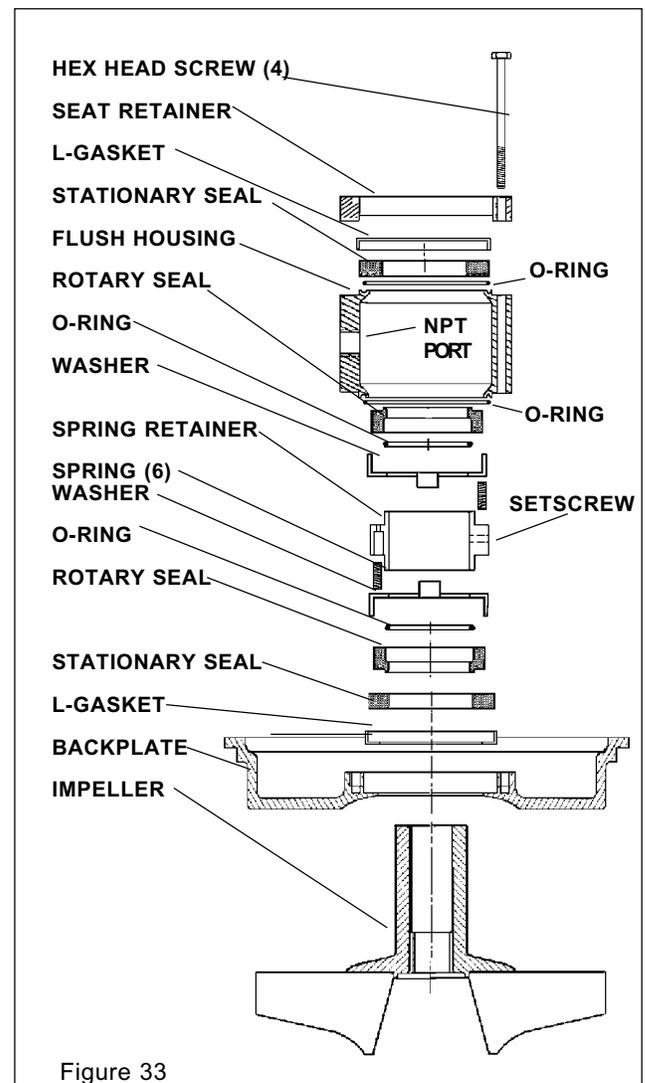

Figure 33
5. Loosen (2) set screws in the spring retainer and lift off rotating seal components: rotary seal, O-ring, washer, spring retainer, springs and washer. **There ARE SIX SPRINGS (3 UP and 3 DOWN.)**
6. Use backplate to slide rotary seal (next to backplate) up the impeller shaft approximately 1-1/2 inches. With the backplate resting on the impeller push the rotary seal toward the backplate until the O-ring is free. Remove the O-ring and lift rotary seal off shaft. (See Figure 33)